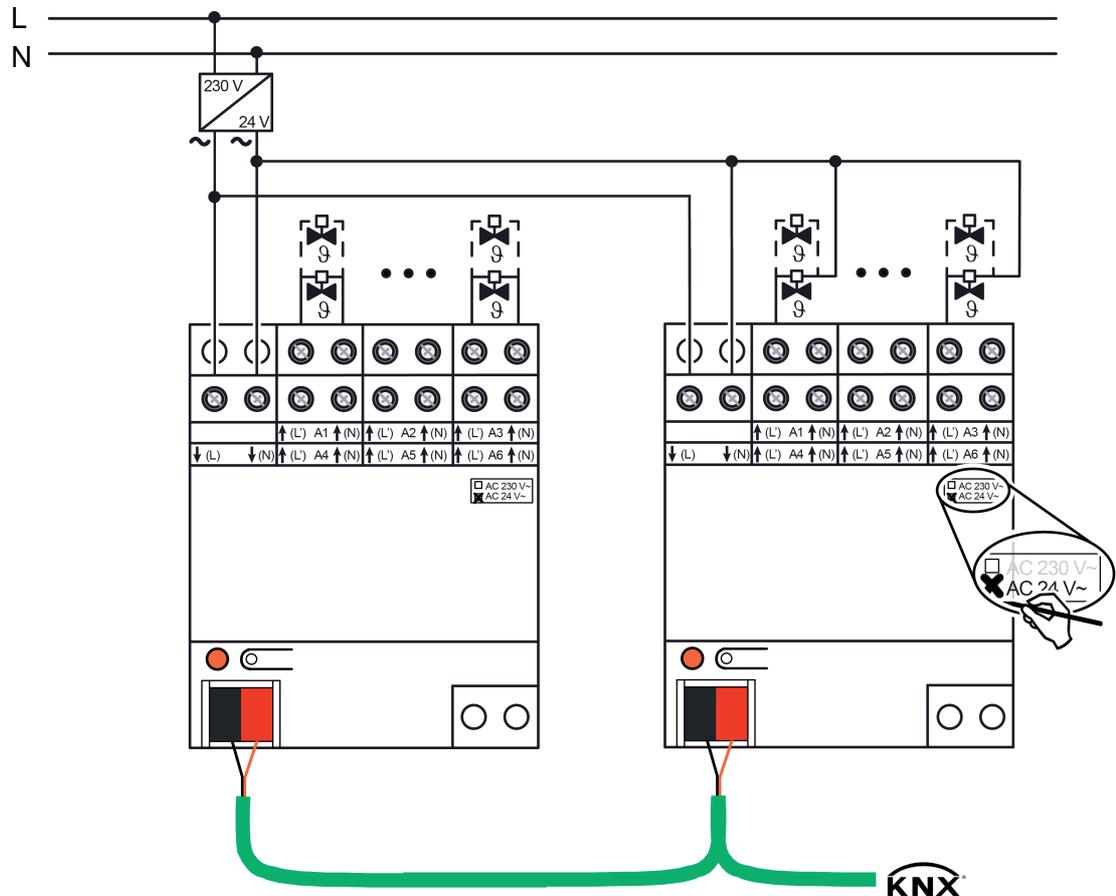

Figure 3: Connection for actuators AC 24 V
- Connect the AC 24 V valve drives according to the connection diagram (figure 3). It is possible to connect the actuators individually and directly with the terminals of the outputs of the heating actuator (left-hand connection example) or, alternatively, using a shared conductor (right-hand connection example).
- Connect the supply for the actuators (AC 24 V) to the terminals ↓(L) and ↓(N) (1). In so doing, use a low voltage AC 24 V from a suitable power supply (transformer, mains power supply).